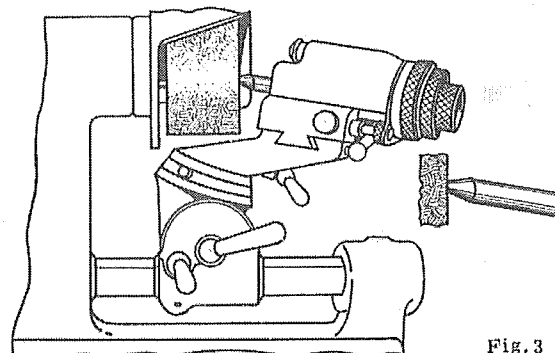

Fig. 3
2. Release clamping lever K2; using scale T2, set swivel arm at an angle of 30° approximately; tighten clamping lever K2, see Fig. 3.